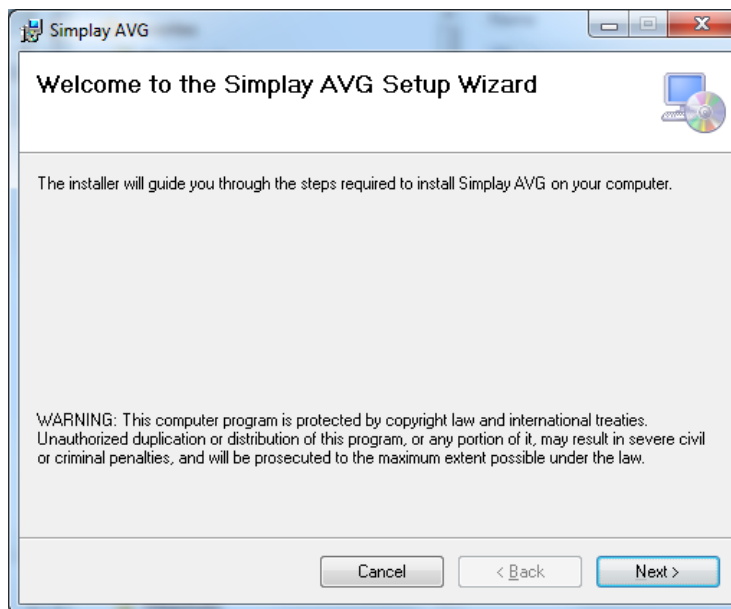

Figure 3.6. Welcome to the AVG Setup Wizard
2. The Welcome to the Simplay AVG Setup Wizard dialog opens (as shown in Figure 3.6). Click Next.